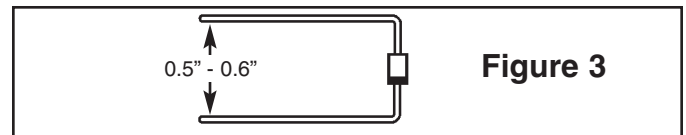

Figure 3
- 5. Bend the zener diode 1N4736 (6.8V 1W, located in a separate bag) as shown in Figure 3.